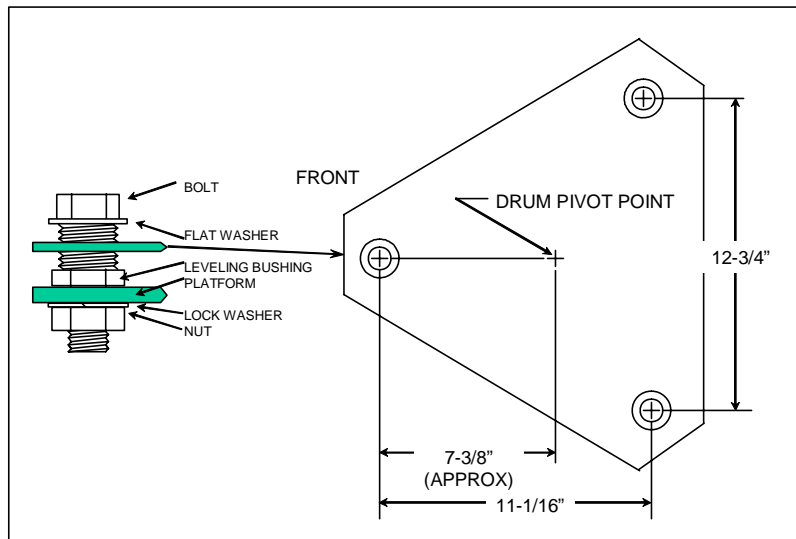

Figure 3-27
a. The lantern must be installed on a stable platform to ensure that accurate aim is maintained. Secure the lantern to the platform using 3/8" bolts as shown in Figure 3-27.